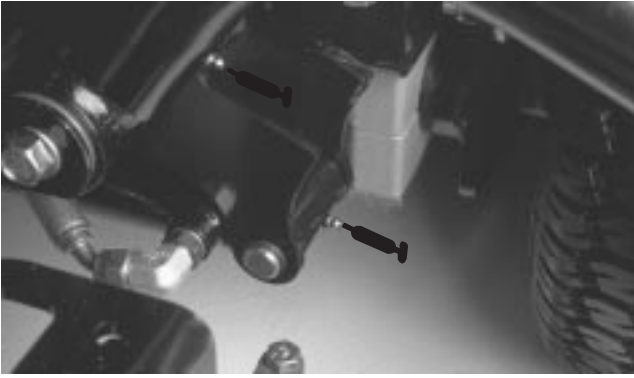
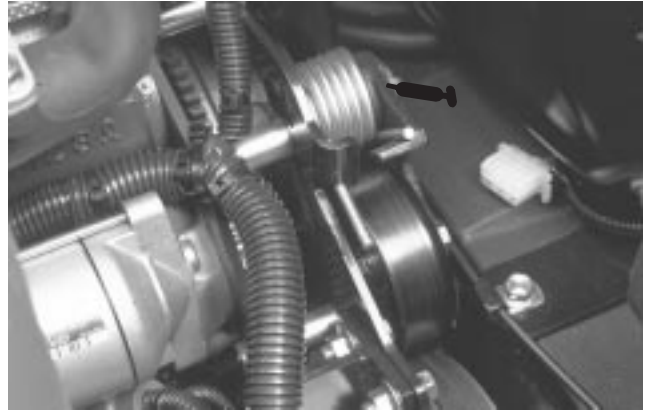

Figure 49
Figure 53
The traction unit bearings and bushings that must be lubricated are: Rear cutting unit pivot (Fig. 44), Front cutting unit pivot (Fig. 45), SideWinder cylinder ends (2) (Model 03201 only) (Fig. 46), Steering pivot (Fig. 47), Rear lift arm pivot and lift cylinder (2) (Fig. 48), Left front lift arm pivot and lift cylinder (2) (Fig. 49), Right front lift arm pivot and lift cylinder (2) (Fig. 50), Neutral adjust mechanism (Fig. 51), Mow/Transport slide (Fig. 52), Belt tension pivot (Fig. 53) Steering cylinder (Fig. 54).